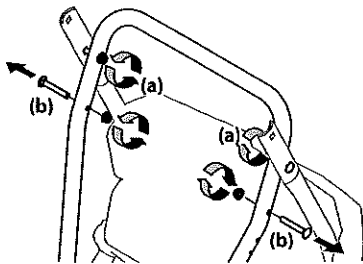

Figure 2-2
2. Loosen the top two nuts (a) securing the upper and lower handle and remove the two carriage screws (b) from the lower handle and set aside as shown in Figure 2-2.